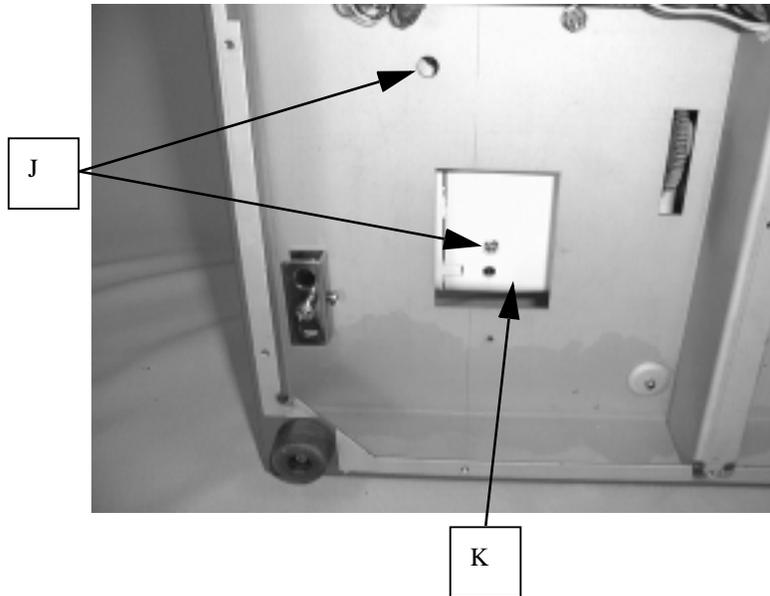

FIGURE 10-7
IV. Remove 2 bind head screws 4x12(J) from backside of base plate, and remove bed cover.(K) Fig.10-7.